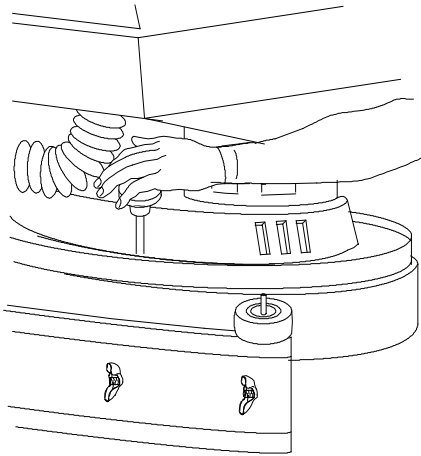

FIG. 2.
3. To remove the brush or pad driver, push down on the brush release pin, located on the scrubber head, behind each scrub motor (Figure 2).